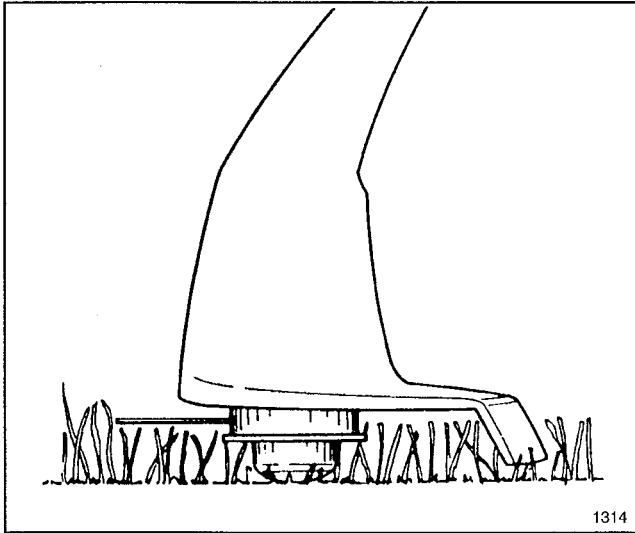

Figure 16
8. Never drag the trimmer spool cap on the ground while trimming (Fig. 16). This causes unnecessary battery drain and spool cap wear.